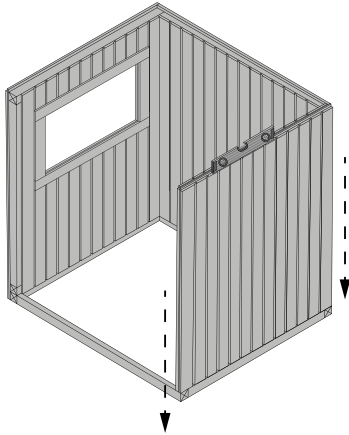

Figure 6.
- 10) Ensure the wall is set level (see figure 6).